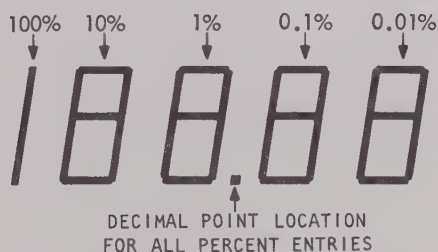

Figure 2-7.
3. Enter numerals for the desired percent limit. Numerals will appear in righthand display. Leading zeros must be entered, but trailing zeros may be left off. For example to enter 17% limit, digits 0, 1, 7 must be pushed. Figure 2-7 shows digit position required for desired percent limits.